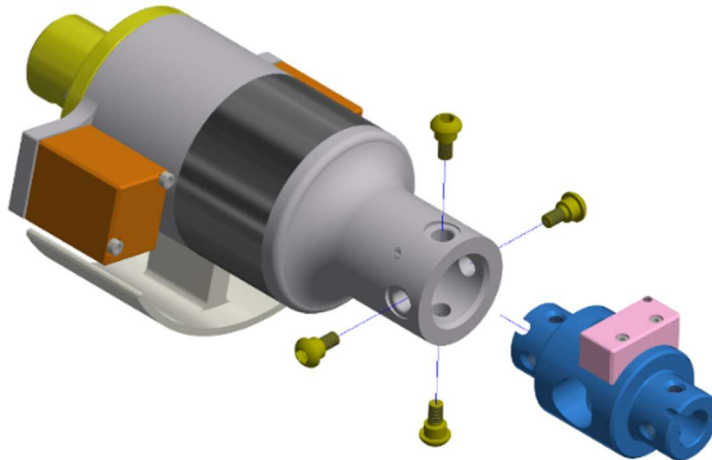
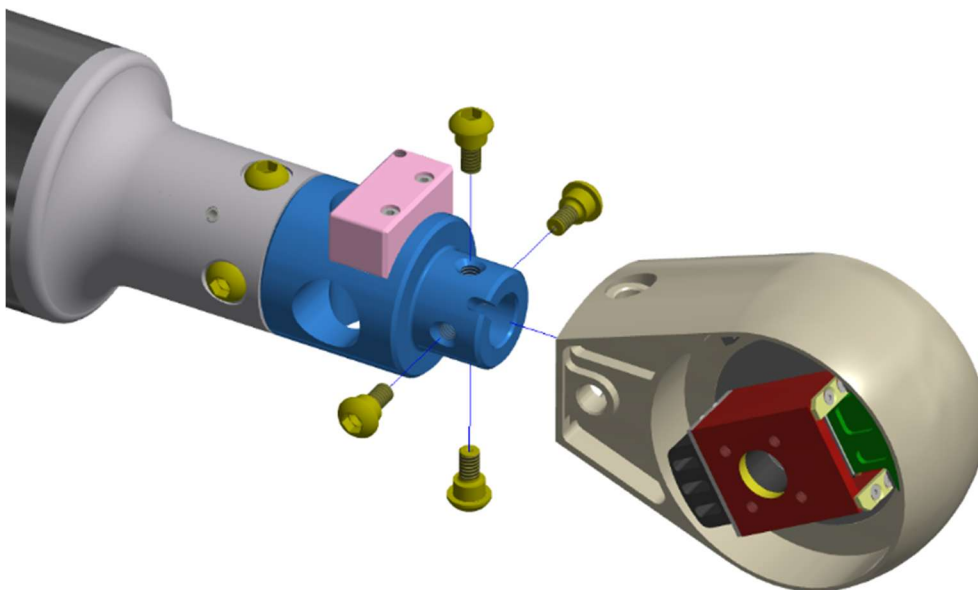

Figure 9-41. Attach the four Modified BHSS M6 Thread from the Femur Assembly (474-5160-1,2) connecting the Femur Load Cell
Figure 9-42. Connect the Knee Assembly (474-5400) to the distal end of the Femur Load Cell
- 9.3.10 Connect the Femur Load Cell (SA572-S63) to the Femur Assembly (474-5160-1,2) using four Modified BHSS M6 Thread (Figure 9-41). Connect the Knee Assembly (474-5400) to the distal end of the Femur Load Cell using four Modified BHSS M6 Thread (SA572-S63) (Figure 9-42).